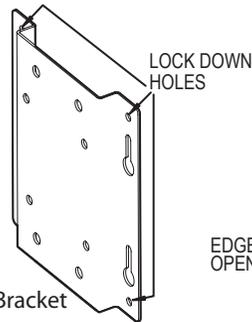

Figure 5
The Hoist unit can be wall mounted when required. **Fig. 5, 6 & 7.**
- 11) Lock the operator in place using the LOCK DOWN HOLES indicated in **Fig. 5**. These **MUST BE USED** to prevent any shifting of the operator due to the torque applied during operation. (These are in addition to the slotted mounting holes.)